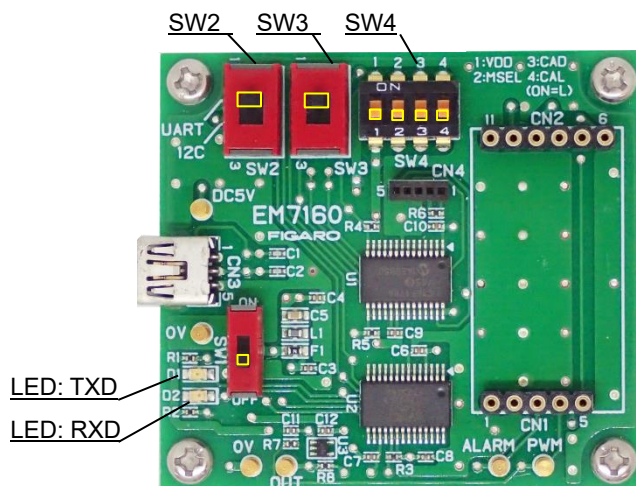

Figure 3 - UART Communication Setting
- SW2, SW3: Set to UART position (**upper position** as seen in Figure 3)
SW4-1, SW4-2, SW4-3, SW4-4: Set to OFF position (**lower position** as seen in Figure 3).